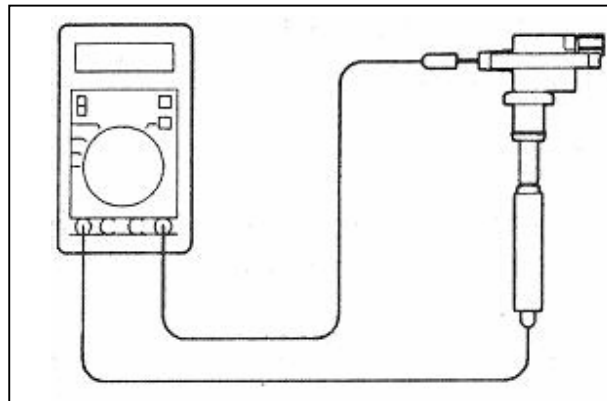

Fig. 9-50
- 1) Ignition coil (with built-in power transistor)check, see Fig.9-50.